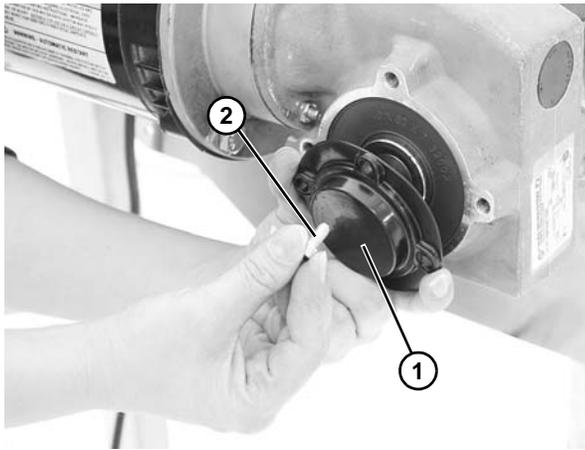

Figure 19
5. Install end cover (Figure 19, item 1) to the drive motor with four socket head screws (Figure 19, item 2).